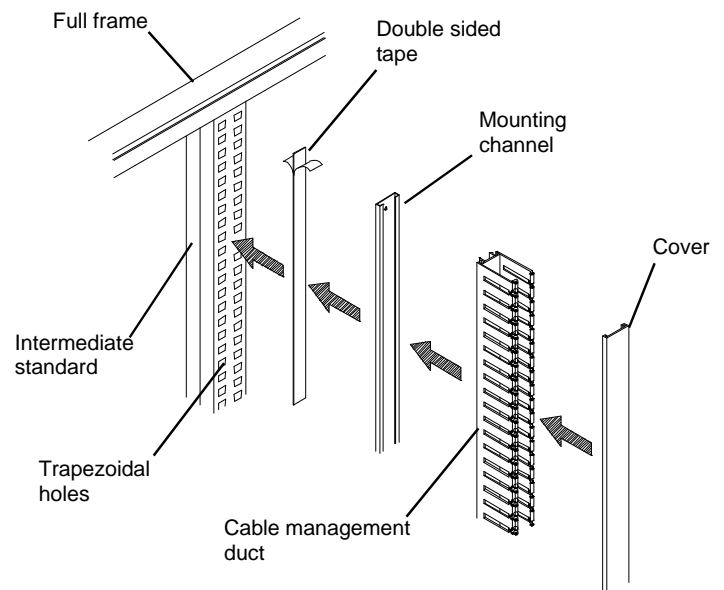

Figure 2
1. This kit can be used to apply **Vertical Cable Management** to unused portions of the **Intermediate Standards** (double rows of slots). It can also be cut into smaller pieces and applied between components. Attach the Mounting channel with double sided tape. See **Figure 2**.
2. Remove the protective paper from one side and apply four (84" units) pieces of tape to the Mounting Channel first. Then, remove the remaining protective paper from the tape and starting from one end, carefully stick the channel to the standard. Snap the duct into place as described above. See **Figure 2**.